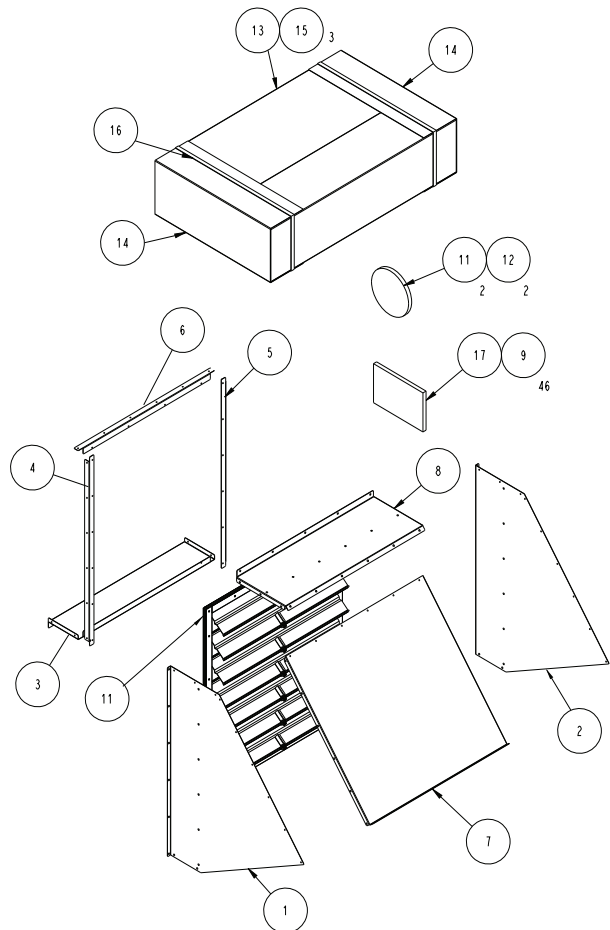

Fig. 39 — Exhaust Hood Assembly and Parts Detail
2. Assemble hood. See Fig. 39.